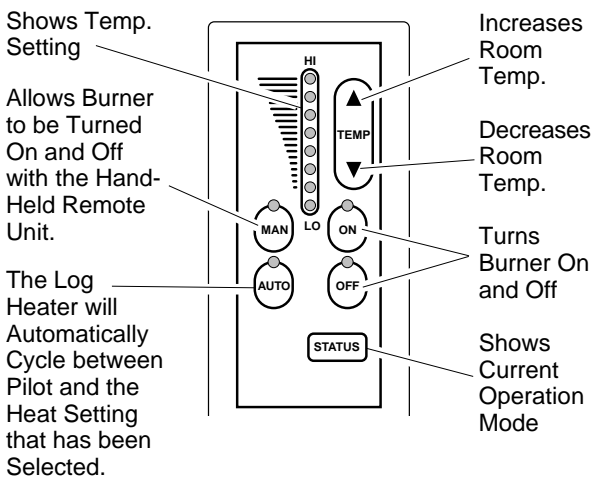

Figure 38 - Thermostat Hand-Held Remote Control Unit Selections (GHRCT only)
- 2b. Select the MAN (manual) or AUTO button on the hand-held remote control unit (see Figure 38, page 20)